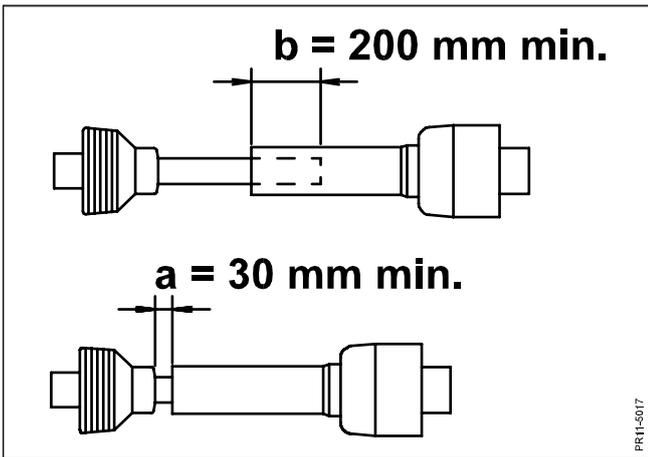

Fig. 4.3
**Fig. 4.3** Adjust the PTO-shaft so that **it has the biggest possible overlapping in no position it has more than 200 mm overlapping and in no position it is closer to the block than 30 mm.**